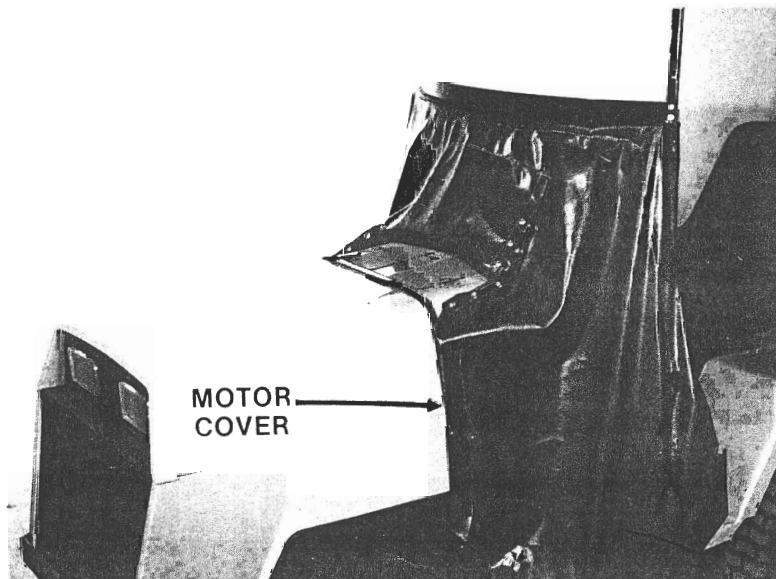

Figure 2
- Step 5** Attach windshield assembly to 121067 yoke and door posts using existing bolts and nuts (Refer to Fig 2)